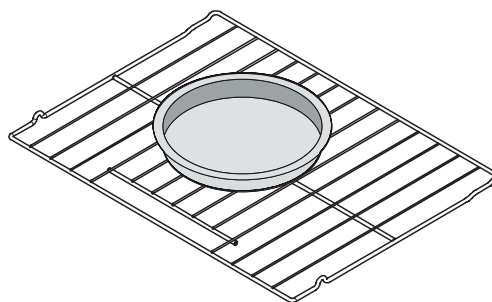

Figure 13: Suggested pan placement
- Place the food as shown in Figure 13.